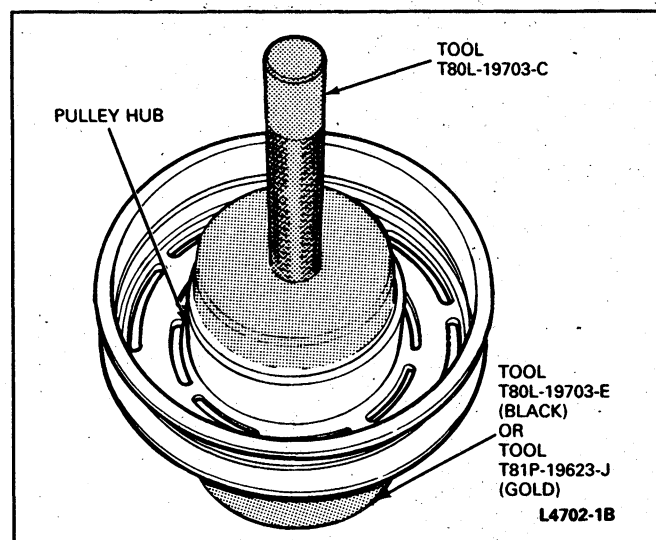

FIG. 12 Clutch Pulley Bearing—Installation
1. Place the smallest opening of Clutch Pulley Support T81P-19623-J or equivalent over the dust shield on the clutch pulley friction face (Fig. 12). Then, place the clutch and tool on the bench with the clutch on top of the tool.
2. Position the new bearing to the clutch bearing bore and install the bearing in the bore until seated with Pulley Bearing Replacer T80L-19703-C or equivalent (Fig. 12).